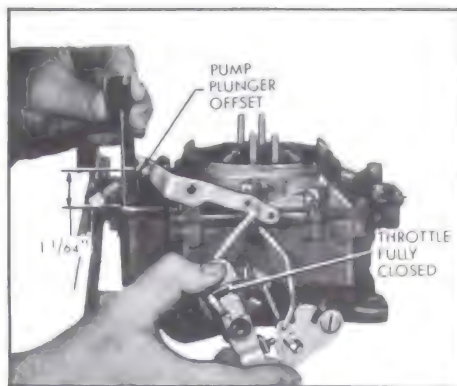

Figure 3-67—Checking Pump Plunger Adjustment
10. Pump Plunger Adjustment. Push fast idle cam to full down position and back out throttle stop screw until primary throttle valves can be fully closed. With throttle held closed and pump rod in center hole of lever, measure vertically from under side of pump plunger offset to air horn casting. See Figure 3-67. Measurement should be 1-1/64" on 401 engine carburetors or 7/8" in the center (No. 3) hole on 300 engine carburetors. After adjusting, pump rod must be moved to the inner (No. 1) hole on synchromesh transmission cars.